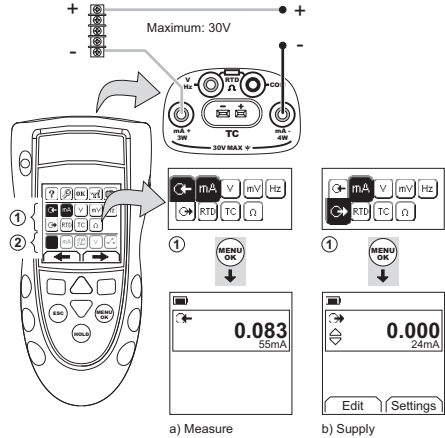
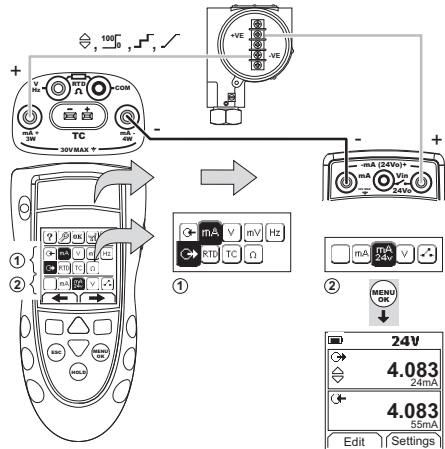
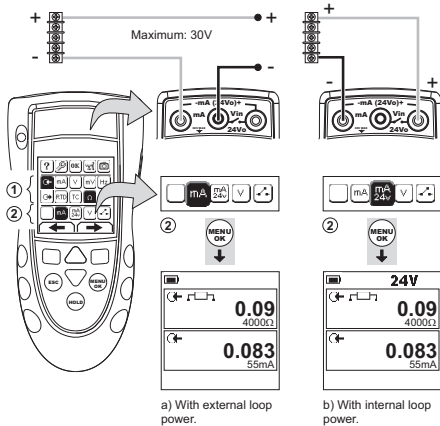

Figure 1: Example Configuration - To Measure/Supply mA with External Loop Power (Area 1)
Figure 2: Example Configuration - To Supply mA with Internal Loop Power (Area 1)
Figure 3: Example Configuration - To Measure mA (Dual Function, Area 2)
1. Connect the instrument (Figure 1, Figure 2 or Figure 3) and, if necessary, adjust the Set Up (Table 1).